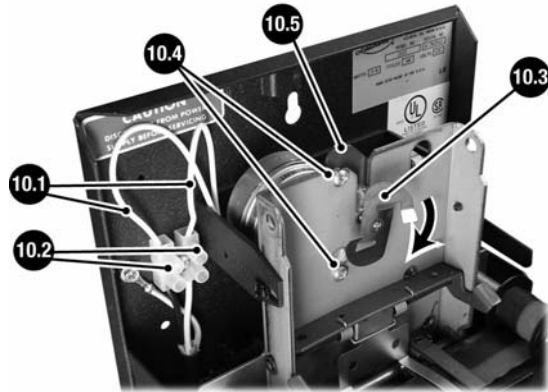

Figure 10
3. **Figure 10** shows a close-up of cam block terminal.
4. Disconnect **Motor Wire Leads - Figure 10, 10.1** by turning each **Screw - 10.2** one-quarter of a turn counterclockwise.
5. Remove the **Motor Clutch - Figure 10, 10.3** from its shaft. The shaft has LEFT HAND threads - remove clutch by turning clockwise.
6. Hold **Motor Bracket - Figure 10, 10.4** and loosen **Motor Mounting Screws - Figure 10, 10.5**. Remove and retain screws and bracket from old motor.
9. Install the new motor wire leads into the cam block terminal - **Figure 10, 10.1** by turning each **Screw - 10.2** one-quarter of a turn clockwise.